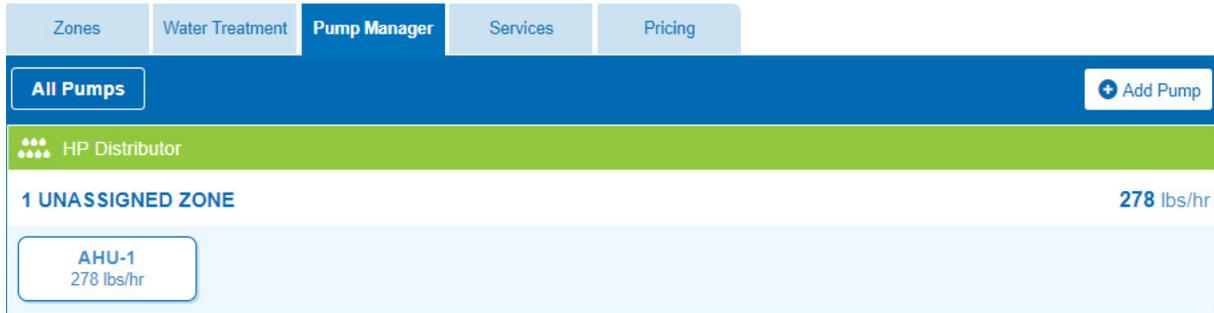

Figure 3: The HP Distributor appears as an unassigned zone. Note that the capacity listed is the spray capacity, not the humidification load.
1. When first navigating to the PMT, each HP humidifier will appear as an *unassigned zone*. (See *Figure 3*)